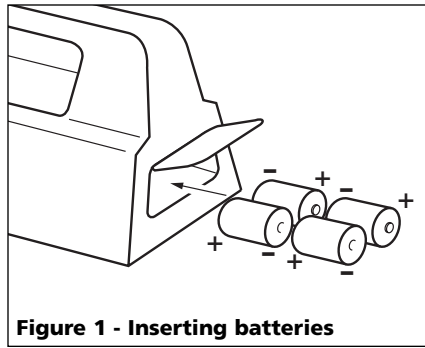

Figure 1 - Inserting batteries
1. Insert 4 D-size batteries into motor housing, with terminals pointing as shown in Figure 1.